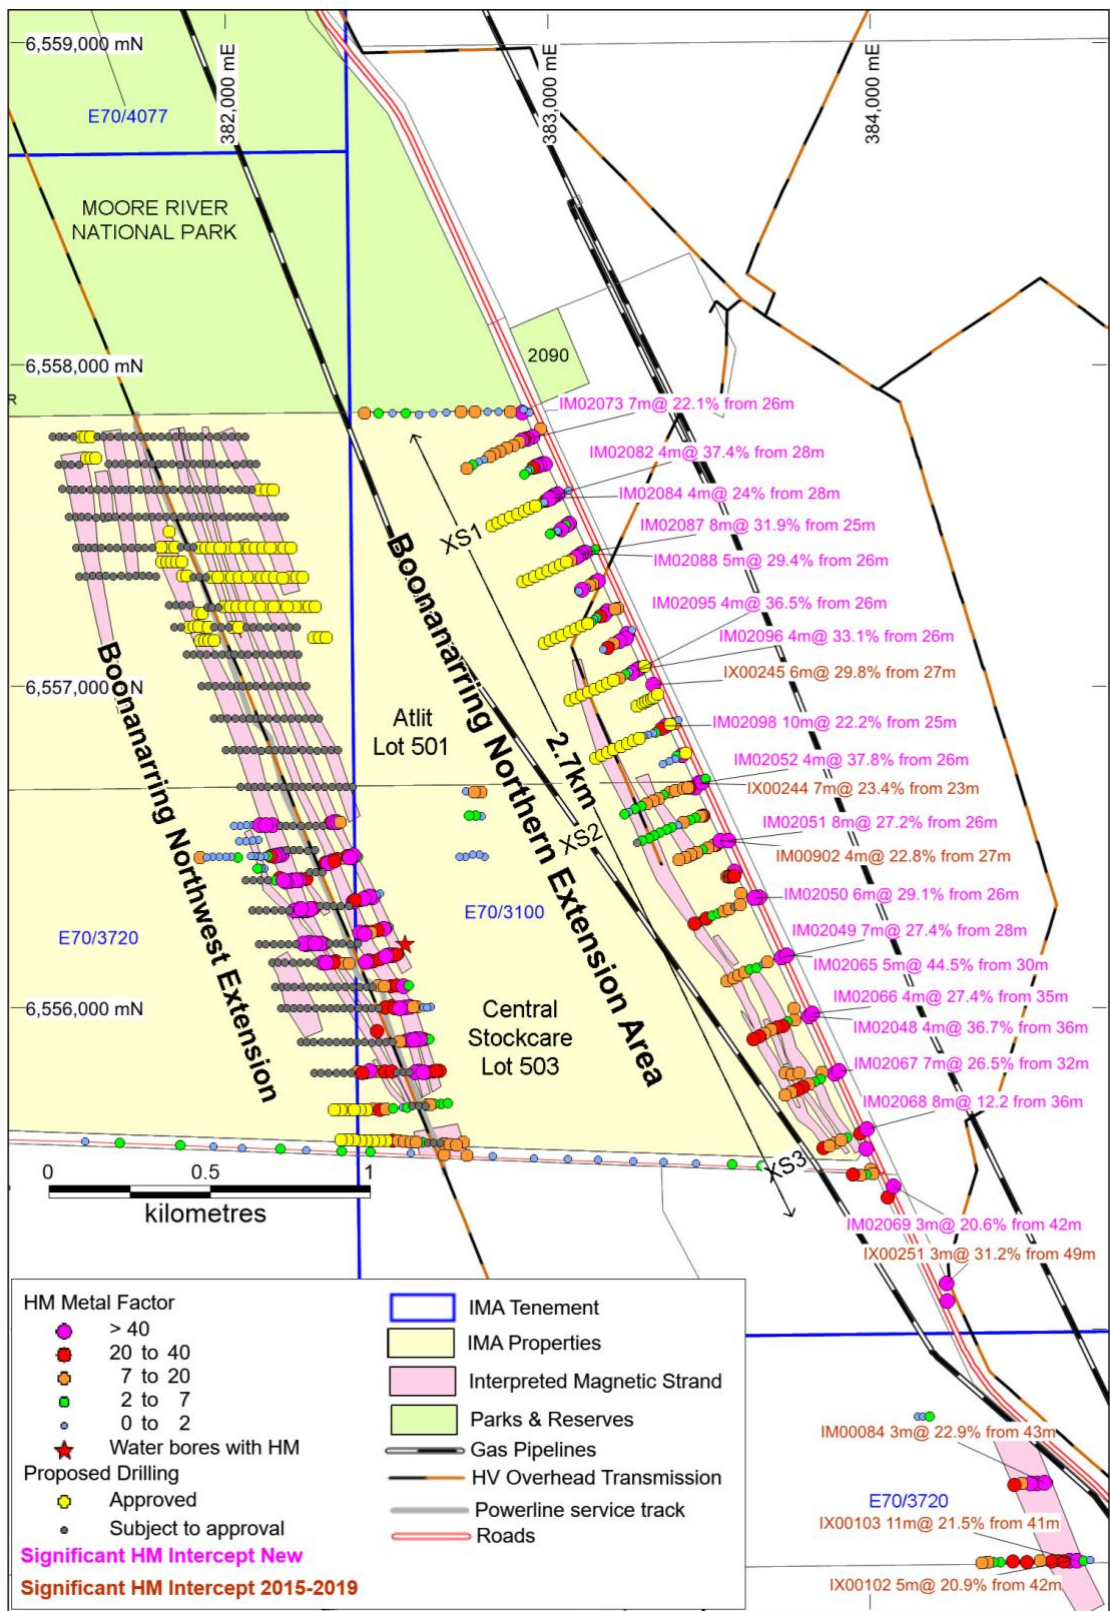

Figure 1 – Boonarraring Northern Extension Area (68% of the drilling completed) with significant intersections.
This update involves new drilling results from the Boonanarring Northern Extension Area (NEA) shown in Figure 1.
- Since February 2015 a total of 232 holes for 9,139m of drilling have been completed and a further 50 holes for 1,500m (Figure 1) are planned in the next two months covering the Boonanarring NEA (Figure 1).
An initial program has been completed over a 2.7km strike-length within the Boonanarring NEA, which is the direct northern extension of the Boonanarring deposit, with 107 holes, totaling 3,890m from the eastern side of the newly acquired Atlit property and Brand Highway roadside drilling (Figure 1). There are many promising intercepts in this area, including 10m at 22.2% HM from 25m in IM02098, 8m at 31.7% HM from 25m in IM02087, 7m at 26.5% HM from 32m in IM02067 and 4m at 37.8% HM from 26m in IM02052.
Figure 1 shows the promising intersections over the entire 2.7km strike-length and Table 1 has all intersections greater than 10% HM. The drilling so far shows close similarities to the high-grade eastern strand within the Boonanarring deposit. This program has shown that the high-grade core within the current Boonanarring Eastern strand likely extends into this area